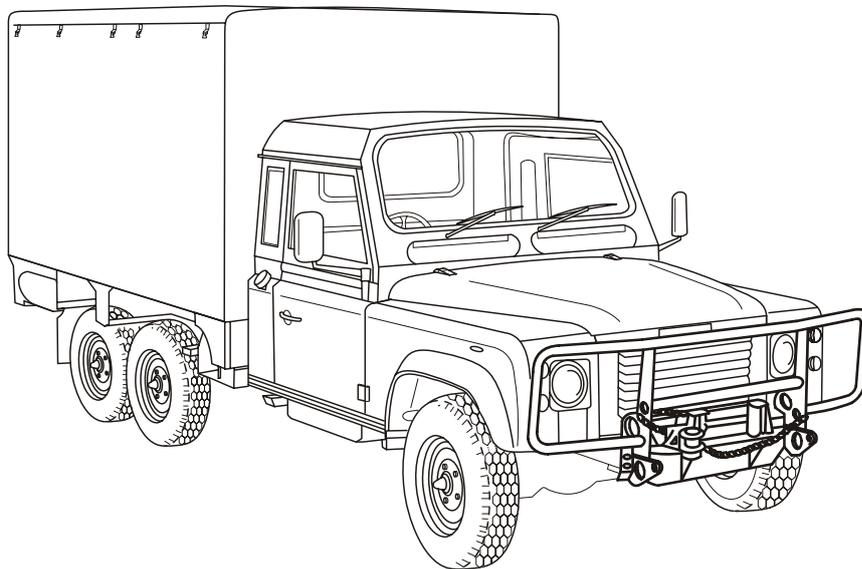

Figure 1 Truck, Air Defence, Land Rover 6 x 6, FFR, W/Winch, Fire Unit Vehicle (FUV)
1. This EMEI contains procedures for removing, dismantling, repairing, assembling and installing various components of the Truck, Air Defence, Land Rover 6 x 6, FFR, W/Winch, Fire Unit Vehicle (FUV), shown in Figure 1. Where applicable, instructions for the adjustment, lubrication and minor servicing of these items are included. This EMEI should be read in conjunction with EMEI Vehicle G 203.